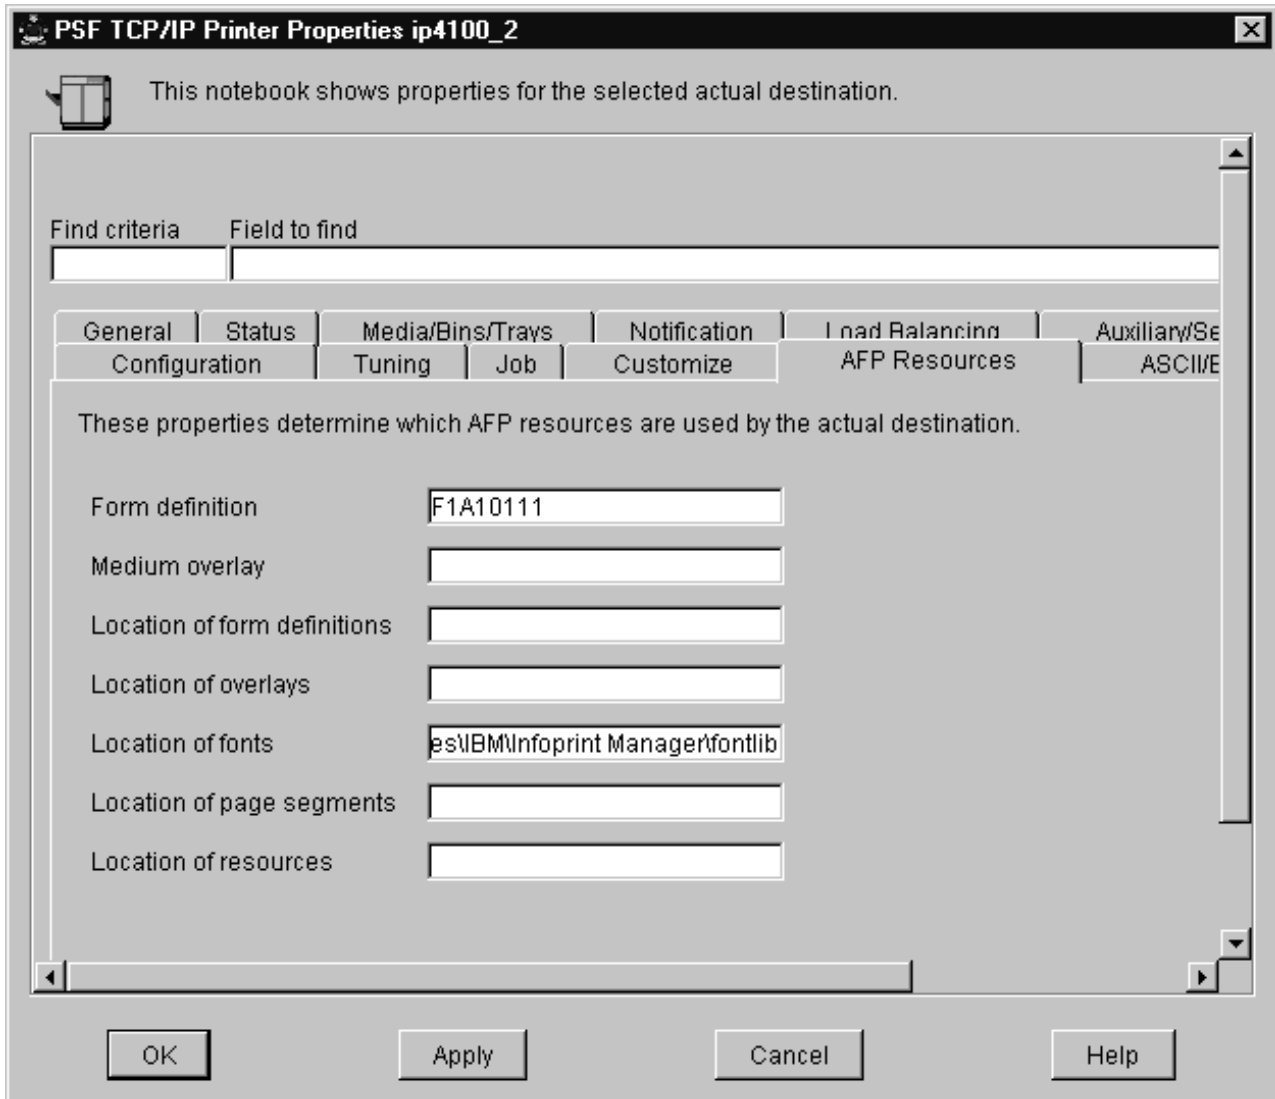

Figure 63. Printer Properties window for specifying the Fonts Path on Windows
- `install_path\fontlib` in the **Location of fonts** field, as shown in Figure 63 on page 146 on InfoPrint Manager for Windows